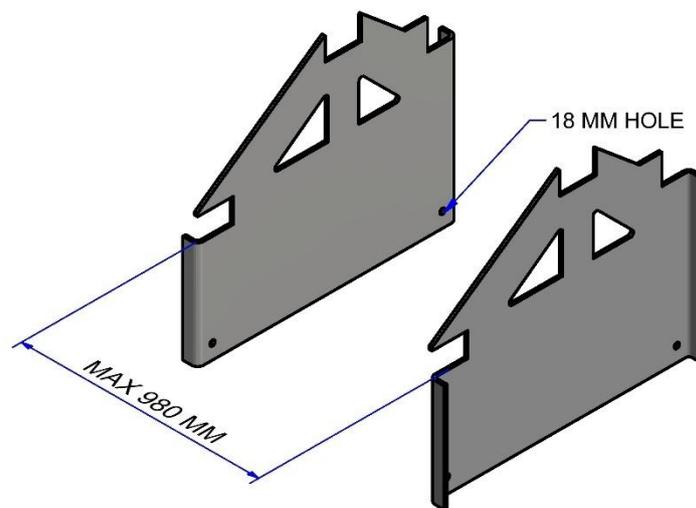

Figure 7 (Isometric View - Mounting Kit Width)
3. This task can be made easier by inverting the mounting plates (Figure 7)